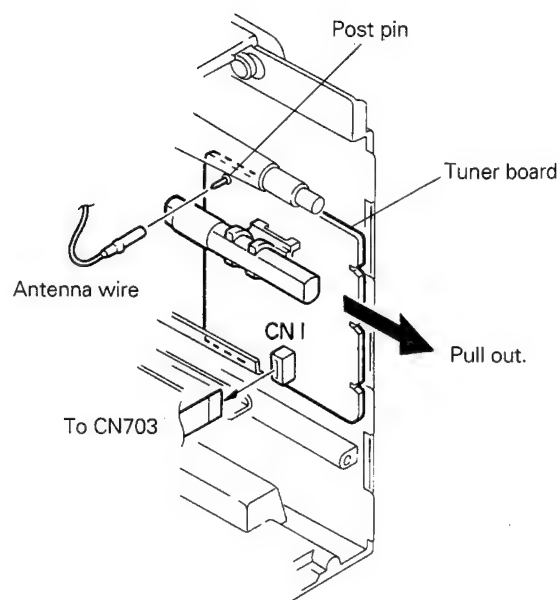

Fig. 5-15
■ **Tuner board** (Refer to Fig. 5-15.)